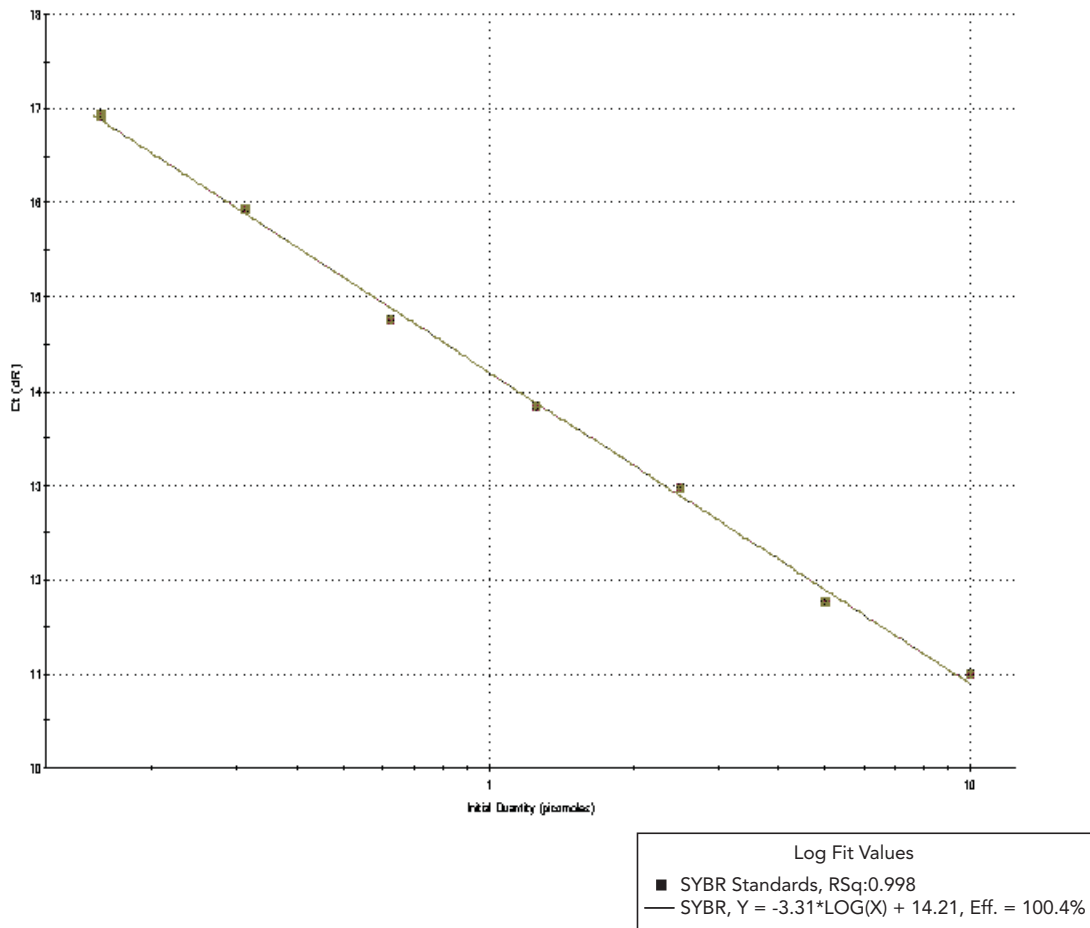

Figure 4 Example of Standard Curve
3. Generate a standard curve from the control template by plotting the Ct values against the log initial concentration (Figure 4).